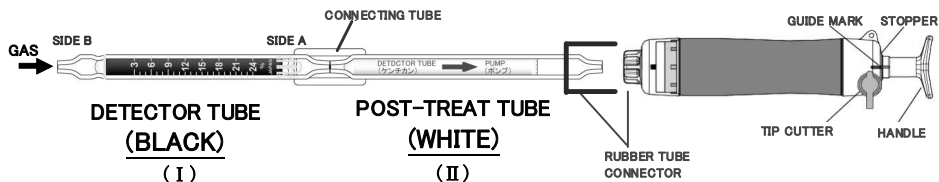

Fig.1
- ① Break both ends of the post-treat tube ( II ) and an end of the side A of the detector tube ( I ), and connect each end of the detector tube ( I ) and post-treat tube ( II ) with connecting tube as shown in Fig.1. (Arrow mark on the detector tube and post-treat tube shall point to the pump.)
**⚠ WARNING (1) THE POST-TREAT TUBE MUST BE NEAREST TO THE ASPIRATING PUMP. IF CONNECTING METHOD AND DIRECTION OF TUBES ARE INCORRECT, OBTAINED MEASUREMENT RESULTS WILL NOT BE CORRECT, AND HYDROGEN CHLORIDE WILL BE EXHAUSTED FROM DETECTOR TUBE AND DAMAGE TO THE PUMP WILL OCCUR.**
- ② Break an end of the side B of the detector tube ( I ), and insert the post-treat tube ( II ) into the aspirating
pump securely as shown in Fig.1. (Arrow mark shall point to the pump.)